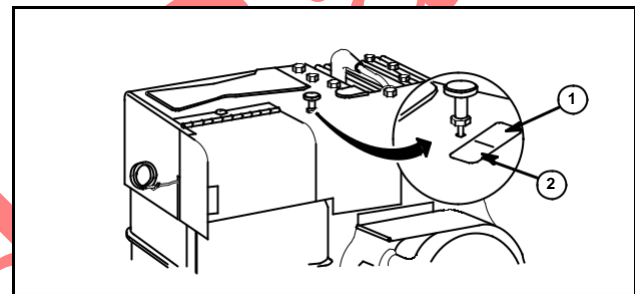

Fig. 58
Pull throttle control knob up to run (1), push down to stop (2), Fig. 58.